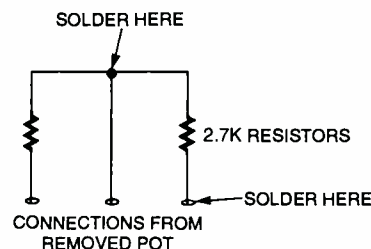

Fig. 5. To modify a servo, you must replace the internal potentiometer with two 2.7K resistors, wired as shown here.
Fig. 5. These diagrams show additions to the basic NCO circuit for frequency-shift keying (A), frequency modulation (B), binary phase-shift keying (C), and phase modulation (D).
- Remove the potentiometer and replace it with two 2.7K, 1% tolerance (“precision”) resistors, wired as shown in Fig. 5. That fools the servo into thinking that it's always in the “center” position. An even better approach is to relocate the potentiometer to the outside of the servo case, so that you can fine-tune adjustments to the center position. Alternatively, you can attach a new 5K or 10K potentiometer to the circuit board outside the servo.